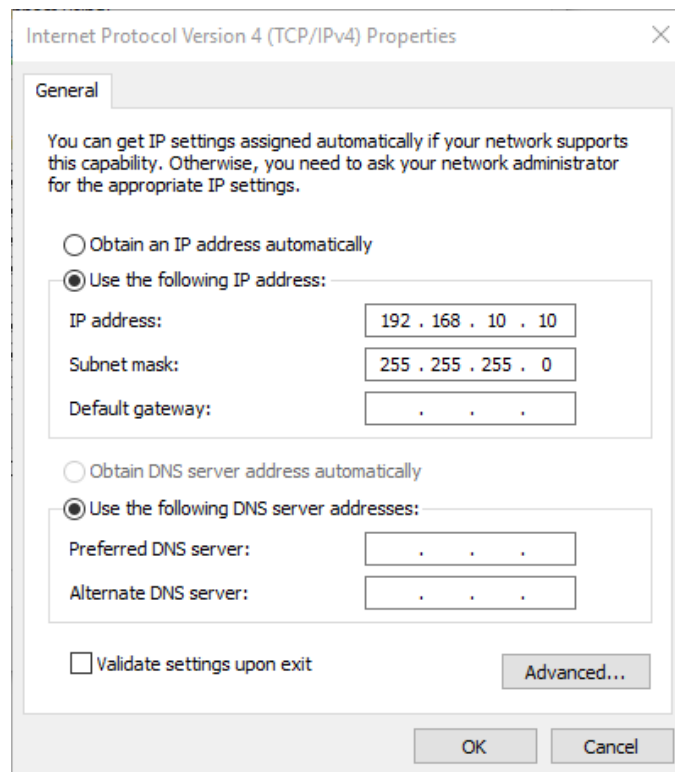

Figure 10-4
4. Now you will see a list; double click on “Internet Protocol Version 4 (TCP/IPv4).” This will bring up the dialog window seen in Figure 10-4 on the following page (may not look exactly like the figure, but it will be similar.)
5. Now that this window is open, select “Use the following IP address:” and type in the IP address that is associated with the computer you are on. Set the subnet mask to match the other computers, as seen in Figure 10-4. After this, you can hit OK and exit out of the windows that were opened. Make sure to change all computers’ subnet masks to match each other. IP addresses should be kept the same as before and should NOT match across computers.